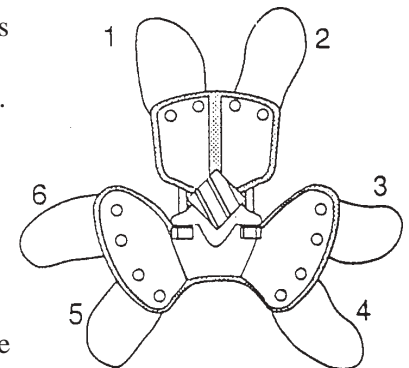
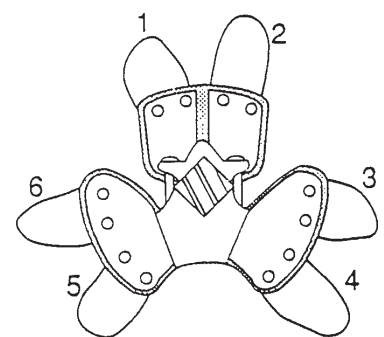

Figure 2
Figure 3
**NOTE:** All Rotor Assemblies except A, have blades assembled as in figure 3. Place 3/4" carriage bolts as above. Attach 4-Blade Rotor Half, but with hub to your left. See Figure 3. Fasten in place with c-c of blades on the 2-Blade Rotor Halves approximately 7".
**Remember:** Rotor Assembly A is arranged as in figure 2. All other rotors have the same blade arrangement as in Figure 3. Always measure spacing of only the 2 Blade Rotor Halves. For wider Tillers proceed as above with additional Rotor assemblies.
Blades may either be assembled in rotors in advance or after rotors are positioned as described. Blades for position A are assembled as in Figure 2, with L.H. blade at 1, a R.H. blade at 2, a L.H. blade at 3, etc. All other Rotor Assemblies have blades assembled as in Figure 3, with a L.H. blade in position 1, a R.H. blade at 2, etc.